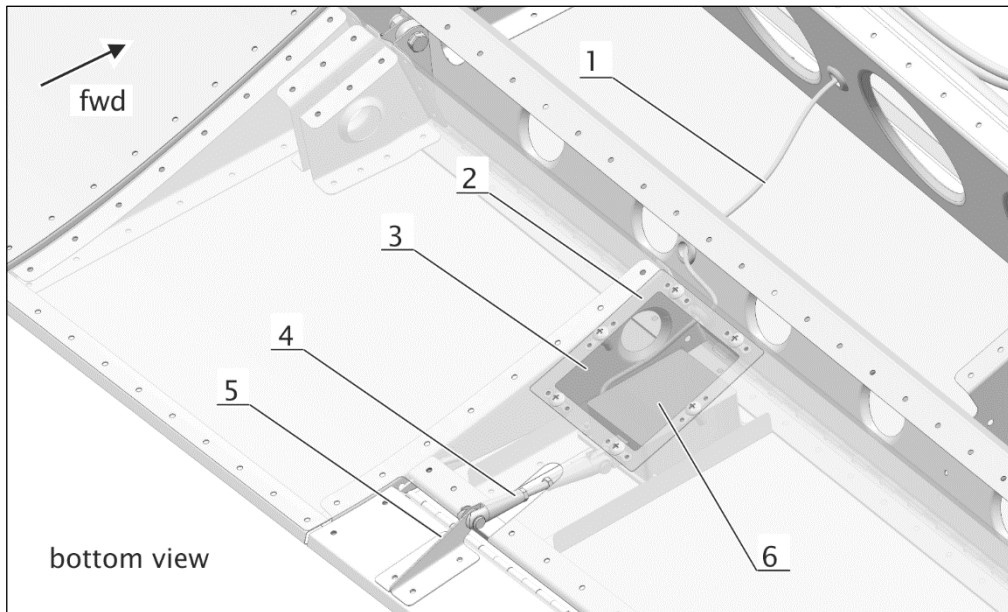

Figure 2 *Trim Tab Control Actuator Removal/Installation*
- ▶ Remove the cover (2) from the hole (3) for access to trim tab actuator (6) on left aileron (see Fig. 2).
- ▶ Disconnect (on left aileron) trim tab actuator wires (1) (Fig. 2).
- ▶ Insert trim tab actuator wires (3) (see Fig. 2) going out from wing to the aileron.
- ▶ Connect trim tab actuator wires (1) on the left aileron (see Fig. 2).
- ▶ Close the access hole (3) with cover (2).